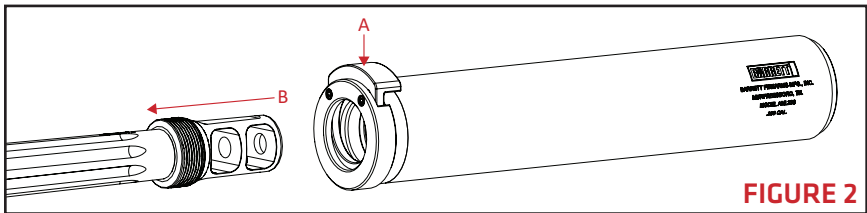

FIGURE 2
4. Depress and hold the suppressor locking latch (**FIGURE 2-A**) and slide the suppressor over the adaptor mount brake until the suppressor threads engage the muzzle brake threads (**FIGURE 2-B**).